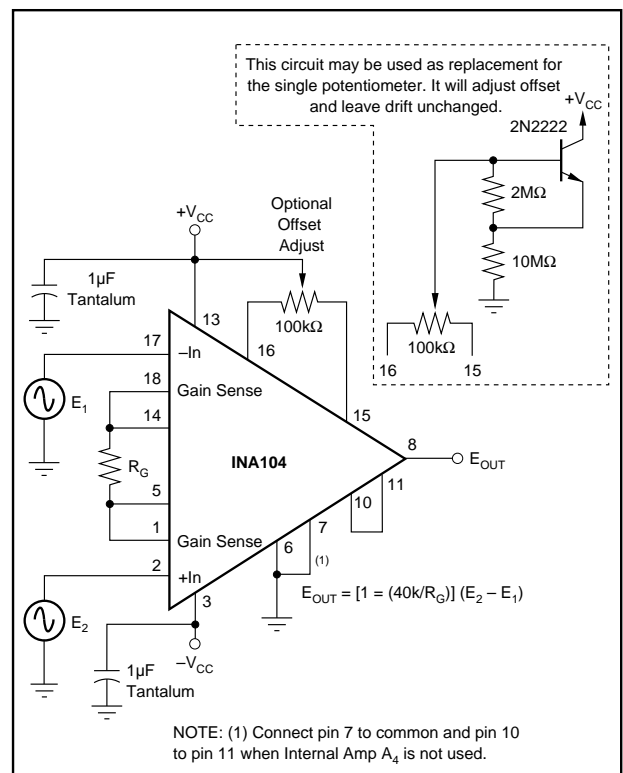
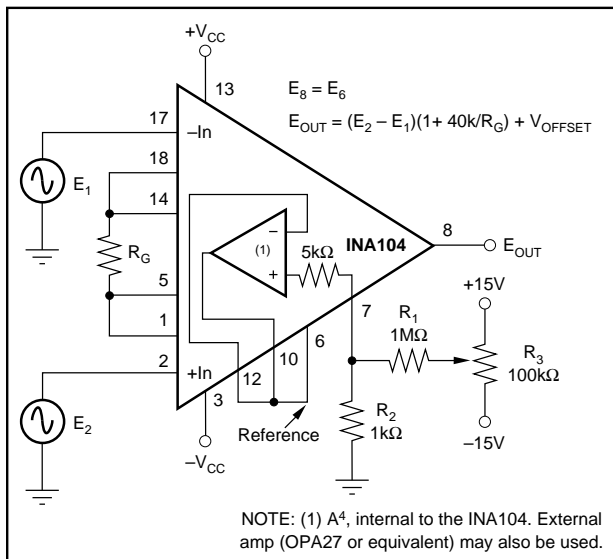
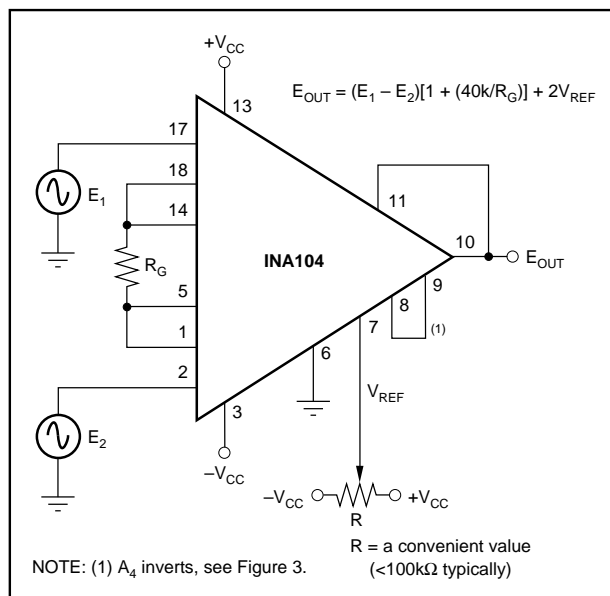

FIGURE 1. Basic Connection for the INA104 Including Optional Input Offset Null Potentiometer.
FIGURE 2. Optional Output Offset Nulling or Offsetting Using an Amplifier (Low Impedance to Pin 6).
FIGURE 4. Output Offsetting.
At TA = +25°C, VS = ±15V power supply and in circuit of Figure 1 unless otherwise noted.
At  $T_A = +25^\circ\text{C}$ ,  $V_{CC} = 15\text{V}$ , and in circuit of Figure 1, unless otherwise specified.
Figure 1 shows the simplest configuration of the INA104. The gain is set by the external resistor,  $R_G$ , with a gain equation of  $G = 1 + (40k/R_G)$ . The accuracy and TCR of  $R_G$  contribute directly to the gain accuracy and drift.
The optional offset adjust capability is shown in Figure 1. The adjustment affects only the input stage component of the offset voltage. Thus, the null condition will be disturbed (if input offset is not adjusted to zero) when the gain is changed. Also, the input drift will be affected by approximately  $0.31\mu V/^\circ C$  per  $100\mu V$  of input offset voltage that is trimmed. Therefore, care should be taken when considering use of the control for removal of other sources of offset.
It is frequently desirable to null the input component of offset (Figure 1) and occasionally that of the output (Figure 2). The quality of the potentiometer will affect the results, therefore, choose one with good temperature and mechanical-resistance stability. The procedure is as follows:
3. Adjust the 100kΩ potentiometer in Figure 1 until the output reads  $0V \pm 1mV$  or desired setting. Note that the offset will change when the gain is changed.
4. If the output component of offset is to be removed or if it is desired to establish an intentional offset, adjust the 100kΩ potentiometer in Figure 2 until the output reads  $0V \pm 1mV$  or desired setting. Note that the offset will not change with gain, but be sure to use a stable amplifier with good DC characteristics. The range of adjustment is  $\pm 15mV$  as shown. For larger ranges, change the ratio of  $R_1$  to  $R_2$ . The op amp is used to maintain a low resistance ( $< 0.1\Omega$ ) from pin 6 to Common to avoid CMR degradation.
The basic circuit connection for the INA104 is shown in Figure 1. The output voltage is a function of the differential input voltage times the gain. Figure 1 does not include additional internal op amp  $A_4$ . Power supply bypassing with a  $1\mu F$  tantalum capacitor or equivalent is always recommended.
Output offsetting (“zero suppression” or “zero elevation”) may be more easily accomplished with the INA104 than with most other IC instrumentation amplifiers as shown in Figure 4. The use of the extra internal op amp, A4, means that CMR of the instrumentation amp is not disturbed, and that a convenient value of variable resistor can be used. The circuit shown in Figure 2 can also be used to achieve the desired offsetting by scaling the resistors  $R_1$  and  $R_2$ . A low impedance path from pin 6 to Common should be provided to achieve the high CMR specified. Resistance above  $0.1\Omega$  will cause the CMR to fall below 106dB.